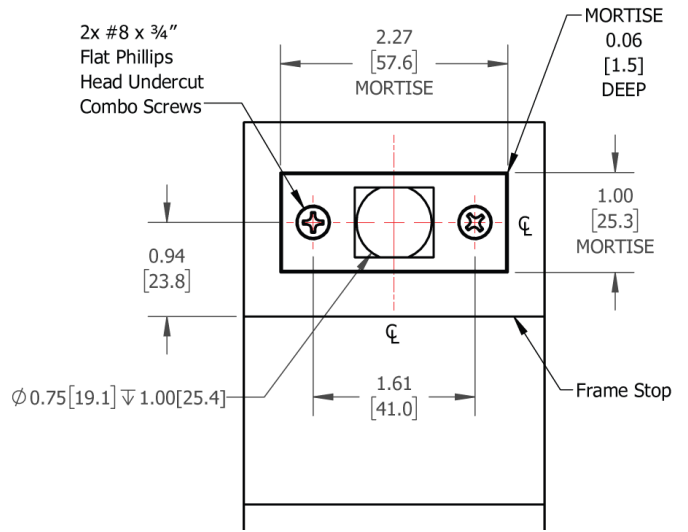
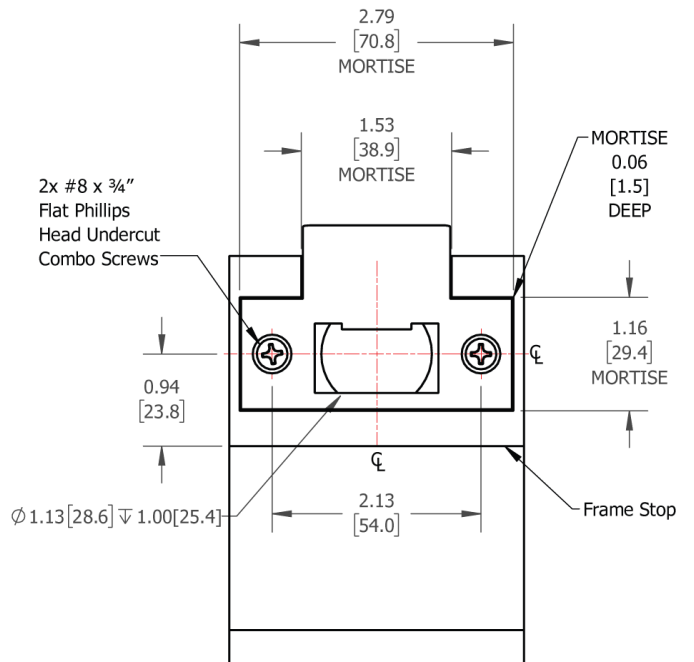

Figure 4: Automatic Flush Bolt Frame/Floor Strike
Figure 5: Self-Latching Flush Bolt Frame Strike
6. Using Figure 4 for 291S, Figure 5 for 292S and 2ea of the #8 x 3/4" Flat Phillips Head Undercut Combo Screws, install the Frame and/or Floor Strike